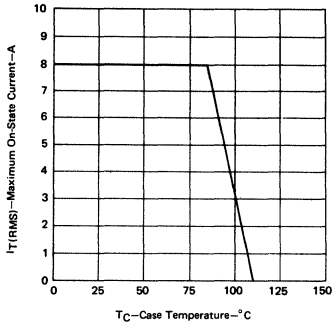

FIGURE 2
2. This value applies for 50-Hz to 60-Hz full-sine-wave operation with resistive load. Above 85°C derate according to Figure 2.